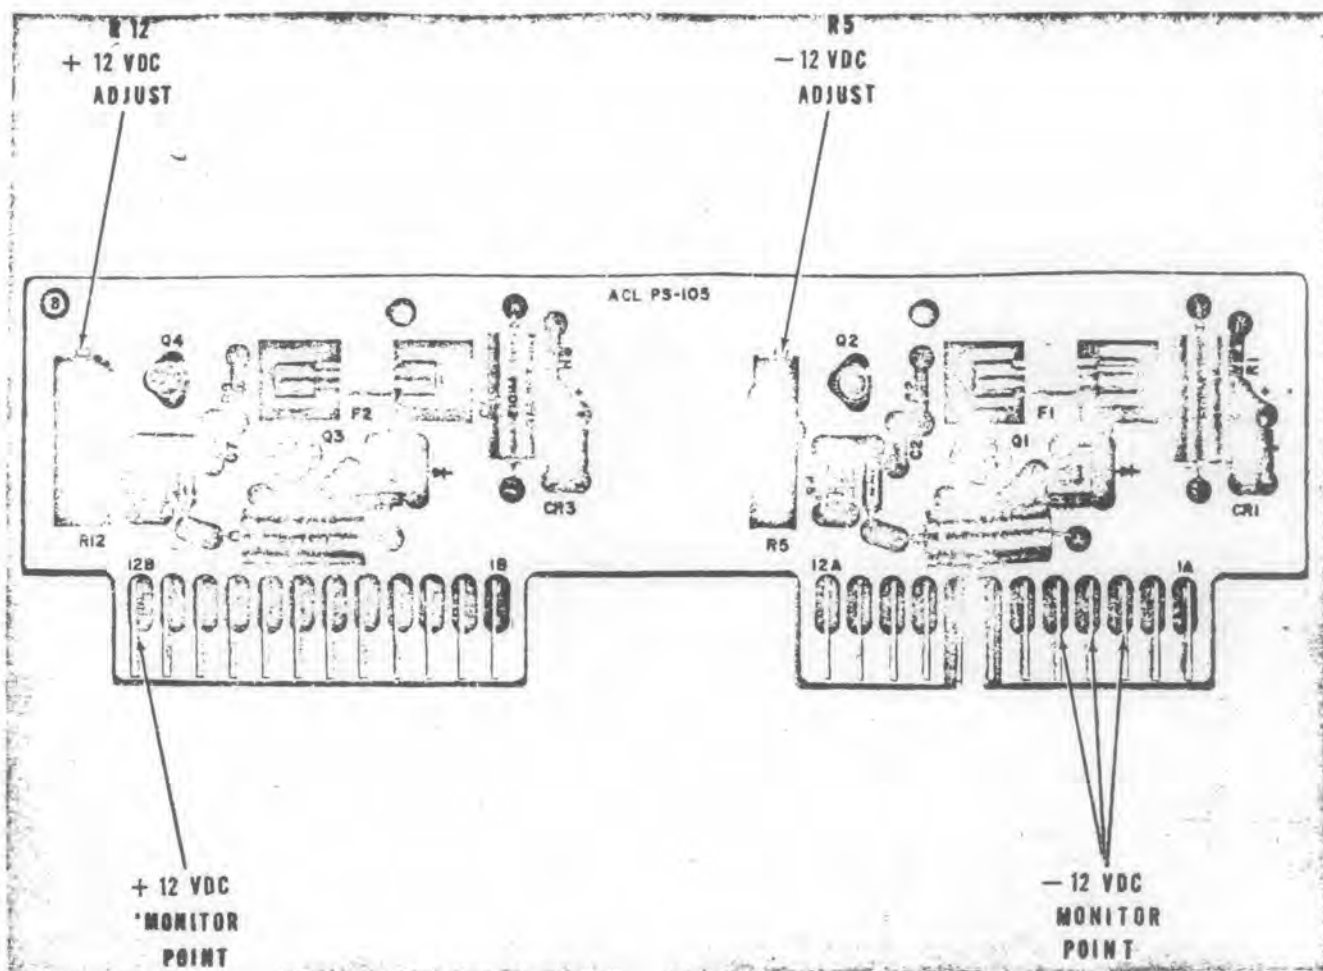

Figure 5-9. 12 Volt Power Supply, PS-105
b. Connect power plug to a 115 volt ac outlet and place the POWER ON switch in ON position. Connect the vtvm to module A2, (PS-105) connector XA2A terminal 3, 4, or 5 (see Figure 5-9).